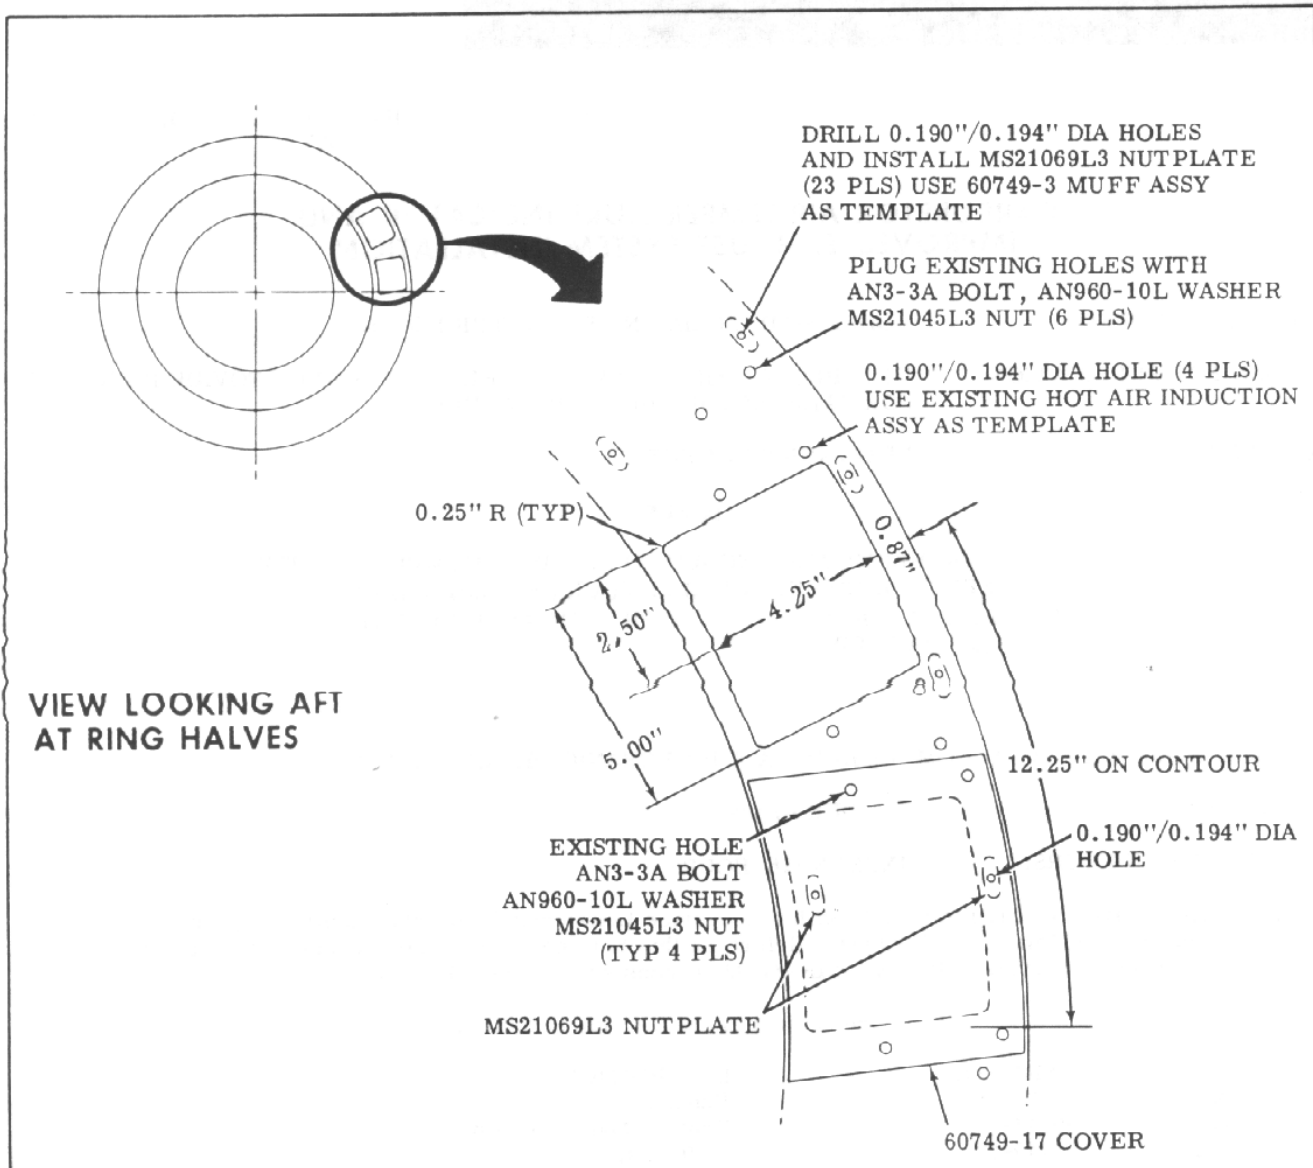

Figure 1.
9. Drill and install MS21069L3 nutplate on 60749-17 cover with MS20426AD3 rivet (see Figure 1).
10. Install 60749-17 cover on forward side of left ring half over existing cutout picking up existing holes (see Figure 1).
11. Drill through remaining hole in 60749-17 cover assembly and through ring half and install MS21069L3 nutplate on ring half with MS20426AD3 rivet (see Figure 1).
12. Plug existing open holes on ring halves with AN3-3A bolt, AN960-10L washer and MS21045L3 nut (see Figure 1).
13. Locate and make a 4.25" x 5.00" cutout in left ring half for hot air induction assembly (see Figure 1).
14. Locate and drill 0.192 (\pm 0.002) inch diameter hole (23 places) on existing ring halves for installation of 60749-3 muff assembly. Use 60749-3 muff assembly for template (see Figure 1).
15. Drill and install MS21069L3 nutplate (23 places) on ring halves with MS20426AD3 rivets (see Figure 1).
16. Locate and drill 0.192 (\pm 0.002) inch diameter hole (4 places) in left ring to match attached holes in existing hot air induction assembly (see Figure 1).